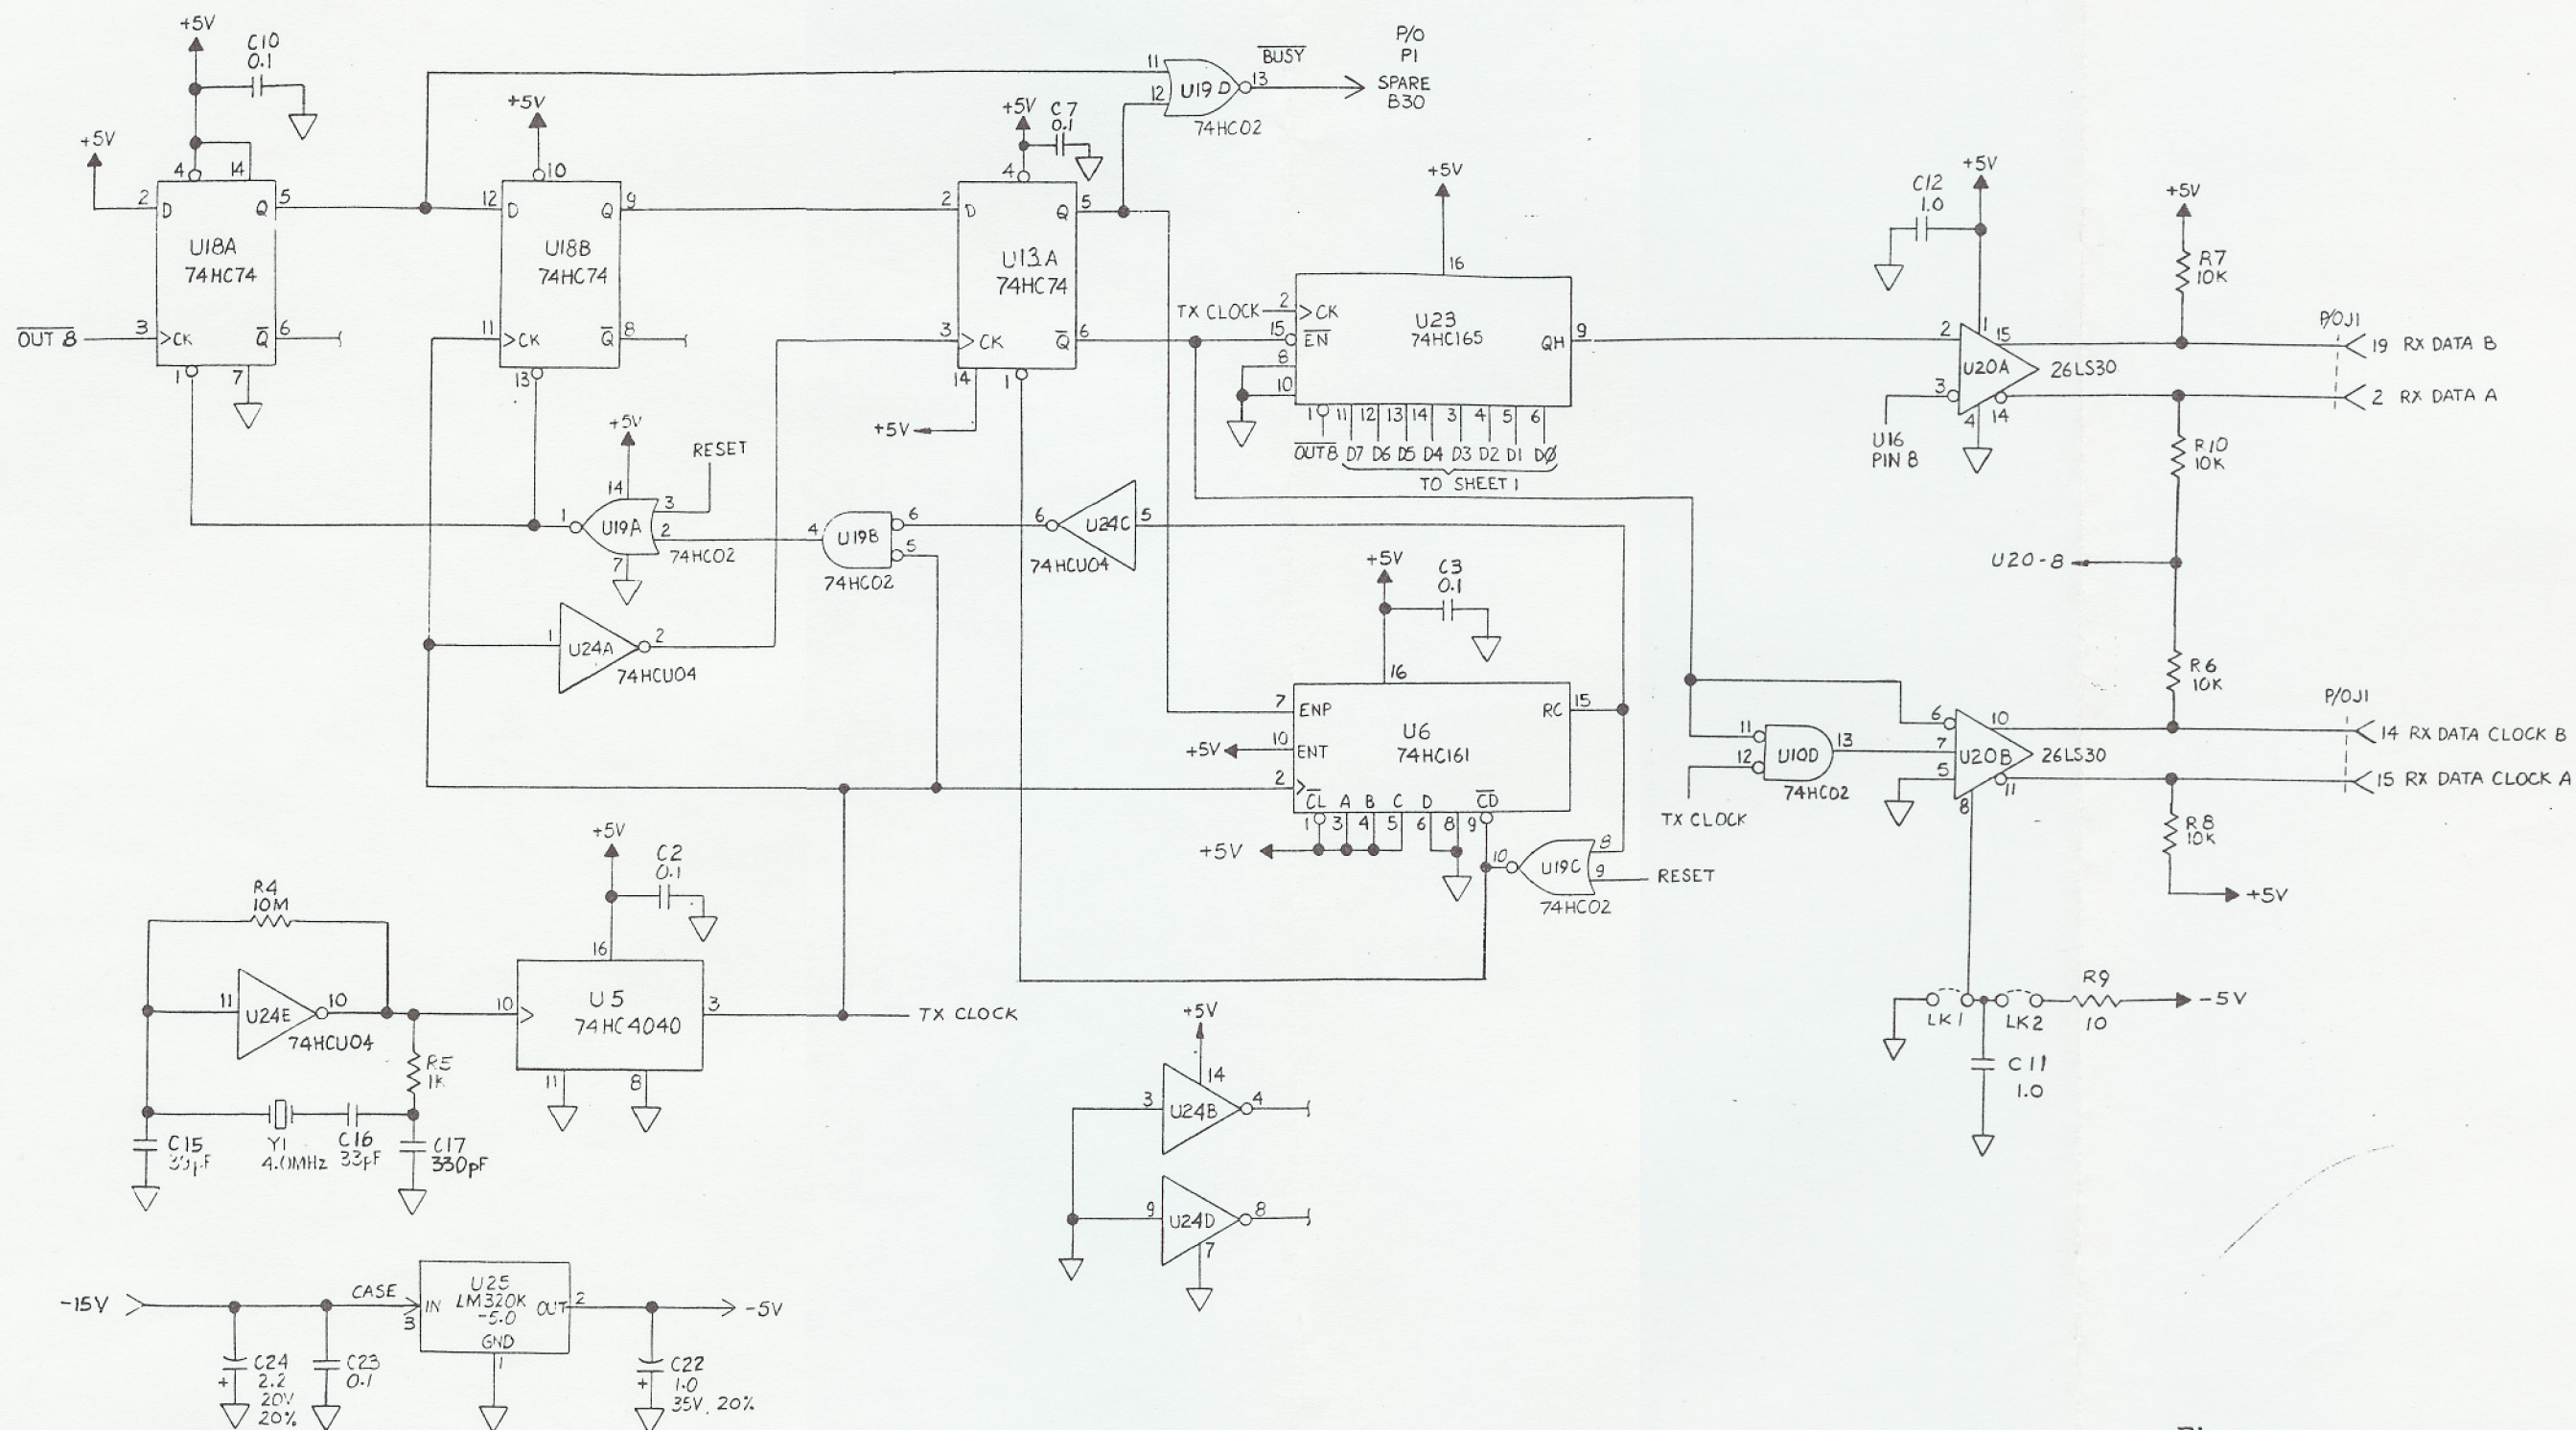

Figure 7-4. 125 kB Remote Control Interface Circuit Card Assembly (4100142-501) Schematic Diagram, A3-2 (Sheet 2 of 2)
- Figure 7-4. 125 kB Remote Control Interface Circuit Card Assembly (4100142-501) Schematic Diagram, A3-2